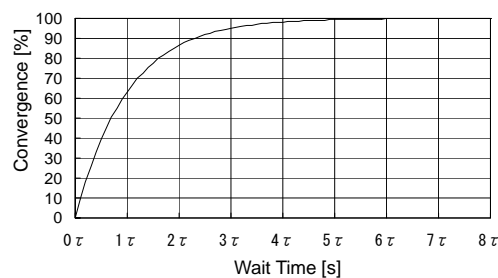

Figure 31. Convergence vs Wait Time (Reference)
Charge time constant follows formula (3) by using the input coupling capacitor and the input impedance. The calculation of the convergence value to wait time is indicated in Figure 31.